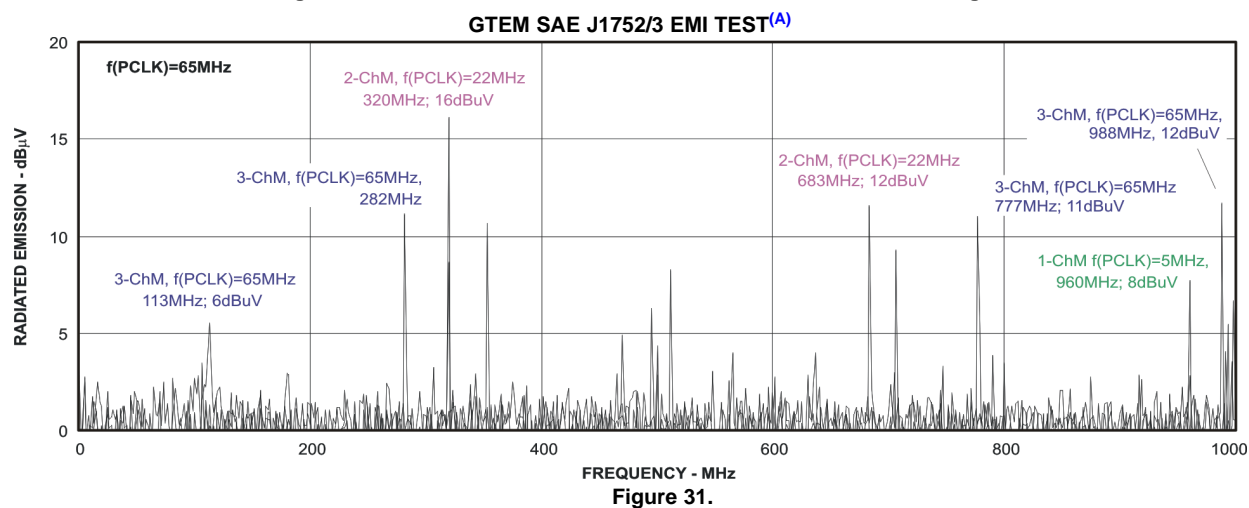

Figure 31.
- A. Figure 31 shows a superimposed image of three EMI measurements with the device operating at $f(\text{PCLK})=5\text{MHz}$, $f(\text{PCLK})=22\text{MHz}$, and $f(\text{PCLK})=65\text{MHz}$. This excellent EMI performance meets the system requirements of dense, mobile designs with a noise floor of $\sim 2\text{dB}\mu\text{V}$ (-105dBm) and all spurs being smaller than $16\text{dB}\mu\text{V}$ (-101dBm). The test was performed in compliance with the SAE J1752/3 EMI test guidelines.